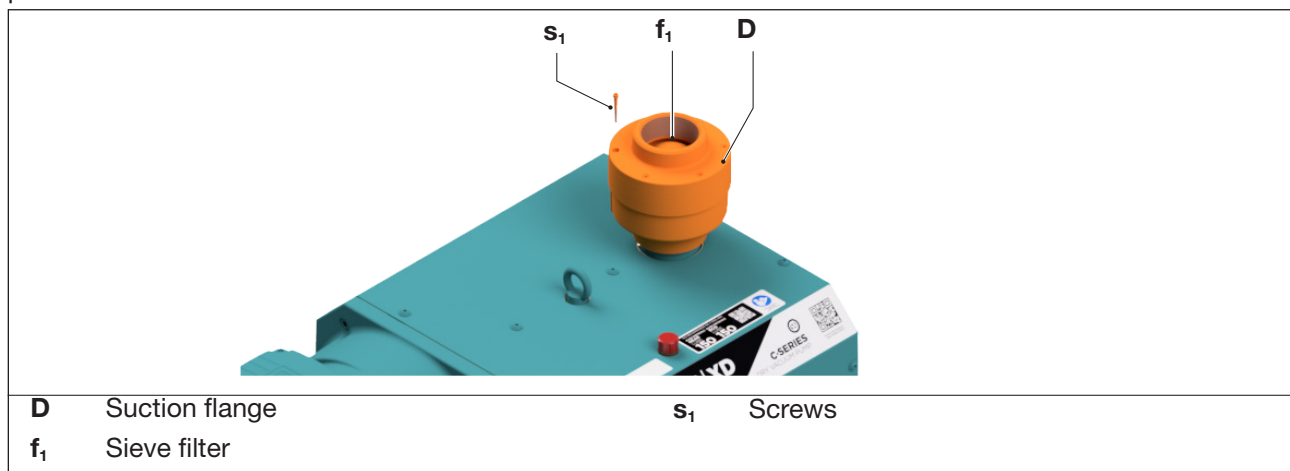

Fig. 6 Mesh filter
- Take off the inlet flange (Fig. 6/D) after releasing the screws (Fig. 6/s1).
- Clean the sieve filter (Fig. 6/f1). Also check the non-return valve for contamination and clean it if necessary.
- Refit the suction flange (Fig. 6/D) and tighten the screws (Fig. 6/s1). Tightening torque: 10 Nm